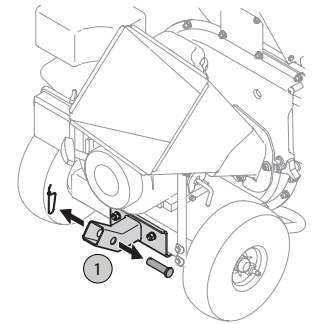

Figure 3
1. Remove the spring pin and clevis pin from the end of the tow bar receiver. See Figure 3.